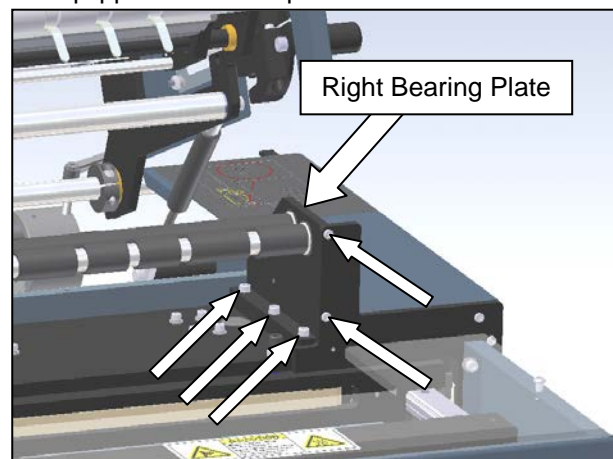

Figure 3-178. Right Bearing Plate and Screws
- Remove the right bearing plate by removing three screws from the base and two screws from the face plate (Figure 3-178). Slide the plate to the right to release the rollers from the bearing plate. Note: the platen roller will be free to dip on the right side if your model is equipped with an imprinter.